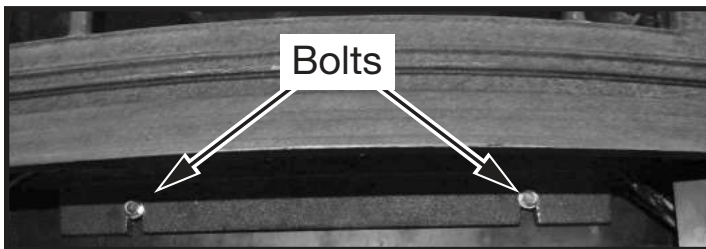

Figure 18: Bolts securing ash lip to firebox.
3. Remove the lower front cover. Loosen the two bolts that secure the ash lip to the firebox (Figure 18), carefully lift up the ash lip and remove from the firebox and unscrew the wire support tabs (Figure 19) noting how the wire are held in place.